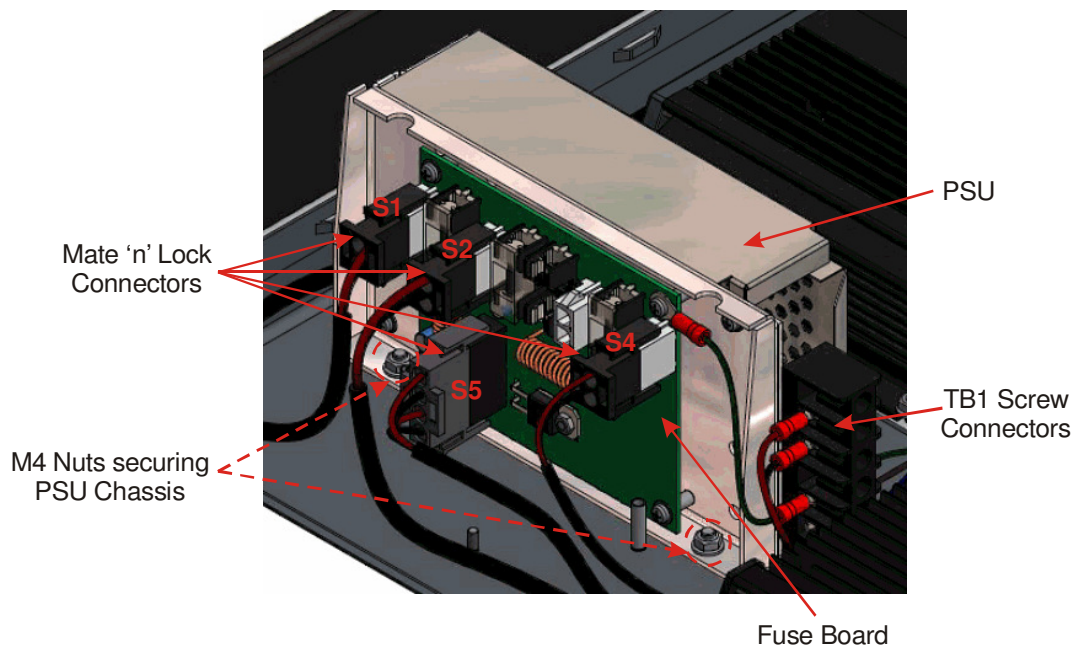

Figure 14. Removal of PSU and Fuse Board Assembly (AC version only).
4. Referring to **Figure 14** above, remove the two M4 nuts that secure the PSU Support Chassis to the SDB670 chassis.